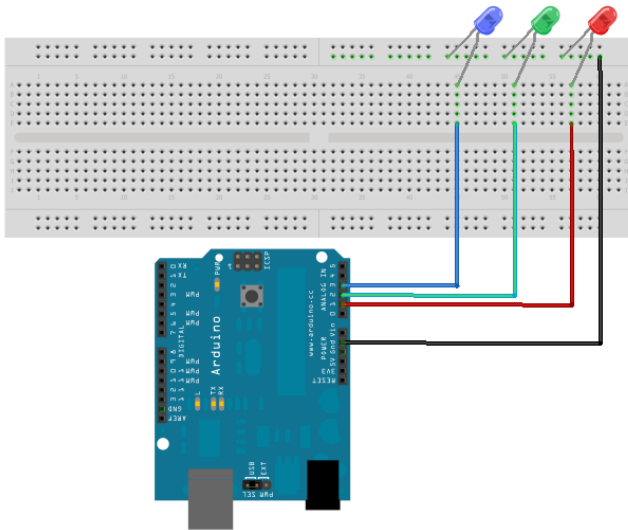

Figure 5-1. Step one.
1. Connect the LEDs to Arduino (Figure 5-1). We've found it's easiest to do this as follows: